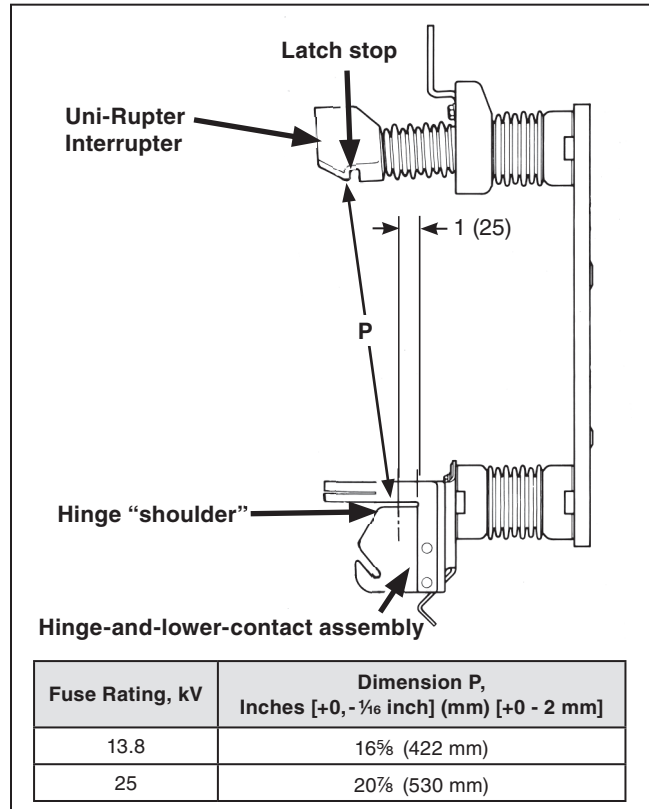

Figure 1. Proper separation between the latch stop and the “shoulder” on the hinge.
**STEP 1.** Accurately measure the distance between the lower edge of the latch stop on the Uni-Rupter Interrupter and the “shoulder” on the hinge-and-lower-contact assembly. See Figure 1. Make sure the distance is within the specified tolerance for Dimension P, shown in Figure 1, on both sides of Uni-Rupter Interrupter. If adjustment is necessary, slightly loosen the mounting bolts that secure the hinge-end insulator to the base. Then, move the insulator toward or away from Uni-Rupter Interrupter as required to bring the distance to within the specified Dimension P limits. Make sure this dimension is maintained on both sides of the mounting. Tighten both mounting bolts.